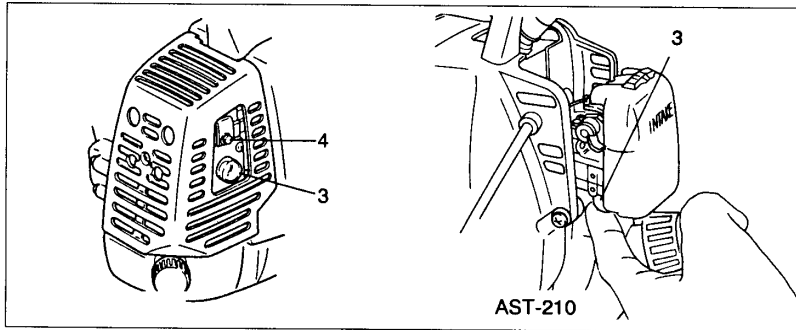

Fig. 2-2
Starting (Fig. 2-2, 2B)
1. Depress the priming bulb (3) several times until fuel flows through the bulb or return pipe.
2. Depress the fuel injection button (4) once which transfers fuel from the carburetor to the combustion chamber. (AST-250) (Fig. 2-2)